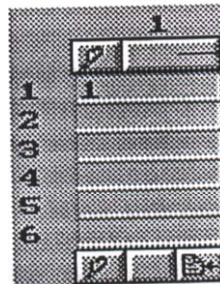

Fig.2. System Activation [3]
The positions of the needles are chosen by typing key 2, from figure 2 to activate the padlocks from the cylinder or the disc; they can be selected in the normal position (in work) and in the transfer position.